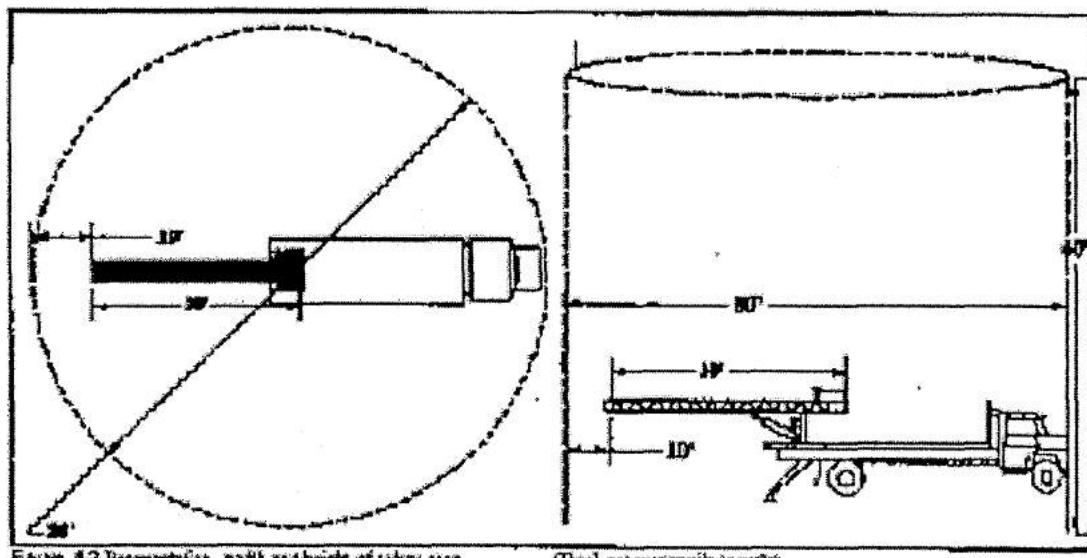

Figure 1-2 Illustrating width and height of safety zone
6.) Set up the SAFETY ZONE around the truck as depicted in Fig. 1-2 below by use of ropes, barricades or other suitable means. Think of the SAFETY ZONE as a giant tin can, wide enough to allow for an additional twenty (20) feet in all directions surrounding the truck and twice as tall as the height of the conveyor if it were positioned vertically (directed straight-up). For example, if your conveyor is 30 feet long, the diameter of the can would need to be
twice the length of the conveyor plus the extra ten feet as noted, resulting in a diameter of 80 ft. of the imaginary tin can. The height would necessarily be a full 60 ft. (see fig. 1-2 below). The same safety zone for a 26 ft. conveyor would correspond to a base of 72 feet and a height of 52 ft.